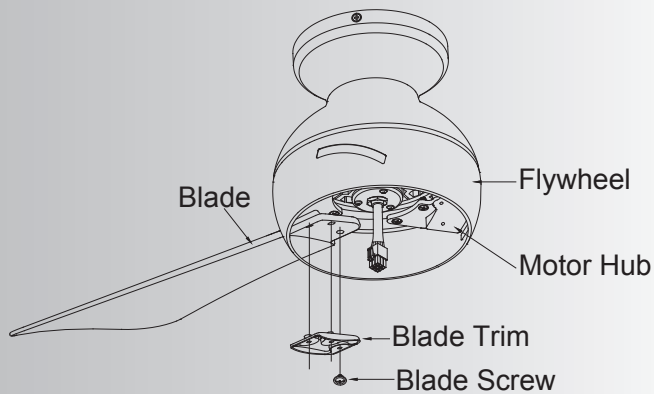

Fig. 11
**Step 2.** Insert the blade through the slots on the flywheel and attach to the motor hub using the blade screws and blade trim. Make sure the screws securing the blades to the motor hub are tight and are properly seated. (Fig. 11)